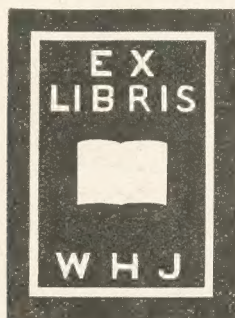

Fig. 1—Cutting the lettering white
This consists of one simple coil of wire as shown at (C) in Fig. 1, as many turns as possible being put on. If the wire is wound carefully in layers, maximum efficiency will be obtained.
Fig. 1 shows the effect produced when the wood is cut from the inside of the letters, so that they print white. This is the easier method. In Fig. 2 the wood has been cut away from between the letters, giving black letters on a white background.